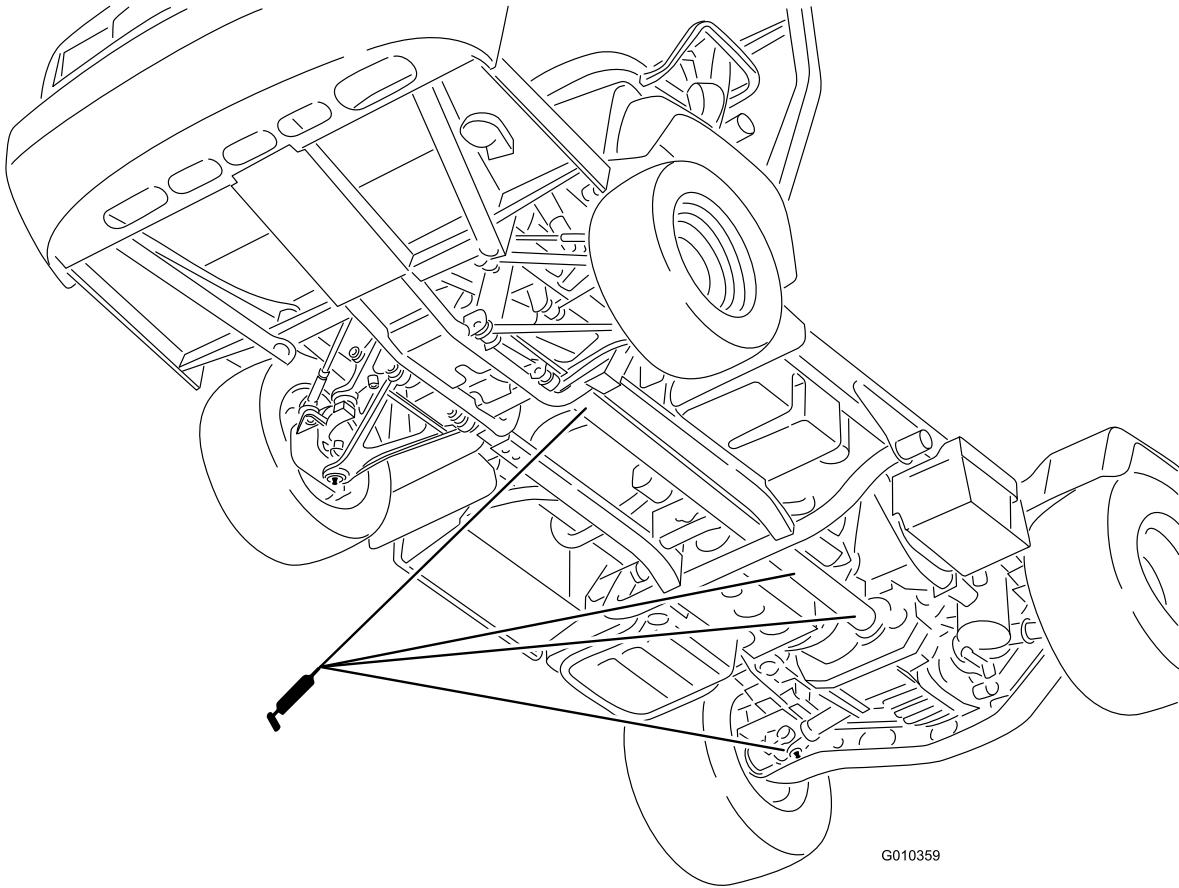

Figure 45
- U-joint (18) and 4 wheel drive shaft (3) (Figure 45)